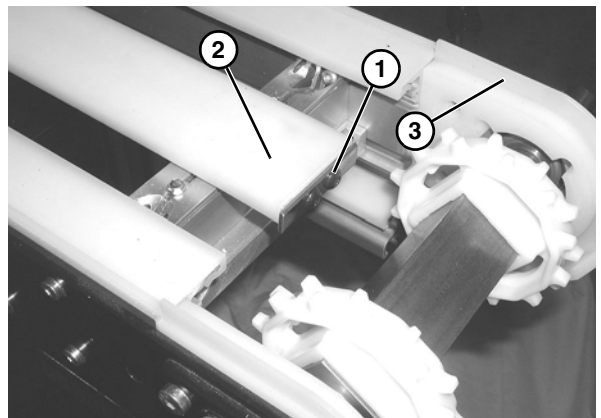

**Figure 24**
5. Remove the center wear strip (**Figure 24, item 1**) from the center frame channel (**Figure 24, item 2**).